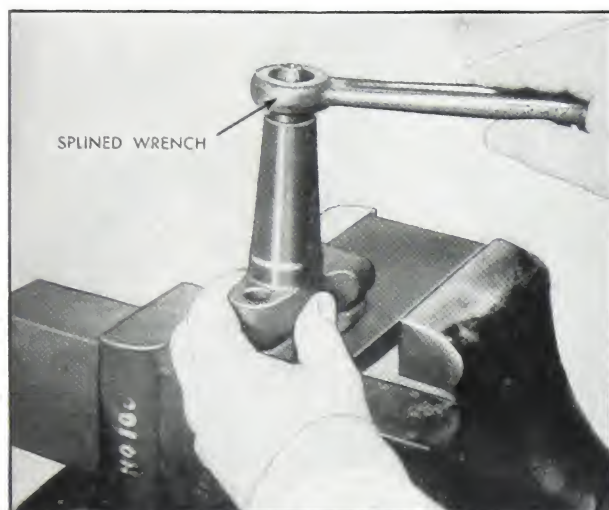

Fig. 6-12. Removing injector cup from body
15. Place the injector in the holding fixture and use the splined wrench, No. 5437, to remove the injector cup, as shown in Fig. 6-12.